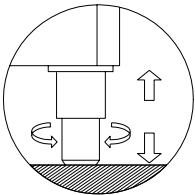

Fig. 1
- Place the refrigerator on a flat level surface (use the adjustable feet). (Fig. 1)